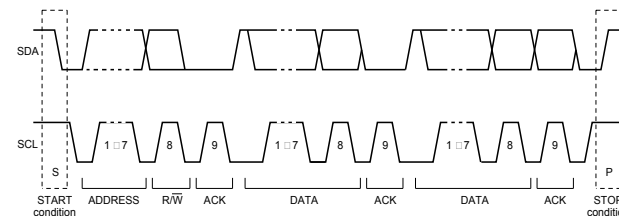

Figure 8: A Complete Data Transfer
Data transfers follow the format shown in Figure 8. A slave address is sent after the start condition (S). This address is 7 bits long, followed by an eighth bit, which is a data direction bit (R/W). A zero indicates a transmission (write), and a one indicates a request for data (read). A data transfer is always terminated by a stop condition (P) generated by a master. However, if a master still wishes to communicate on the bus, it can generate a repeated start condition (Sr) and address another slave without first generating a stop condition.